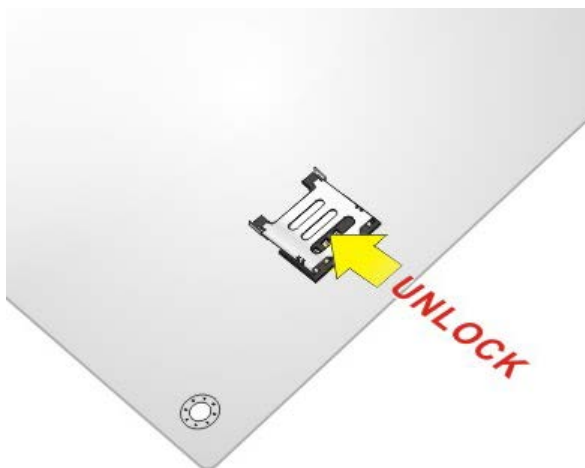

Figure 4-8: Unlock SIM Card Slot Cover
Step 2: Unlock the SIM card slot cover by sliding the cover in the direction as shown by the arrow in **Figure 4-8**.